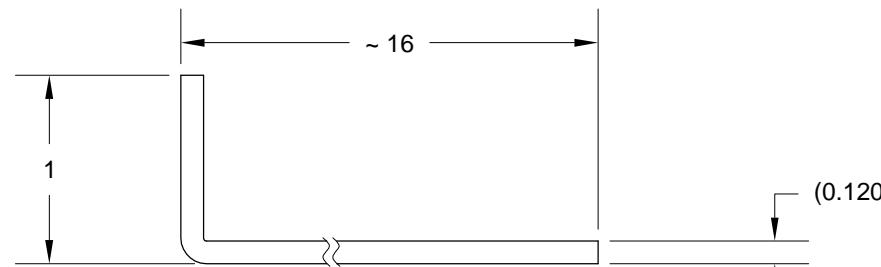

FIGURE 2: FABRICATING THE COWL SIDE HINGE PINS
Step 13: Bevel the eyelets along the curved portion of the F-1001N Cowl Attach Hinges as shown in Figure 2.
Step 2: Make two F-1001T Cowl Side Hinge Pins from SSP-120 hinge pin per the dimensions in Figure 2. These pins will replace the soft aluminum pins provided for the F-1001P Cowl Attach Hinge.